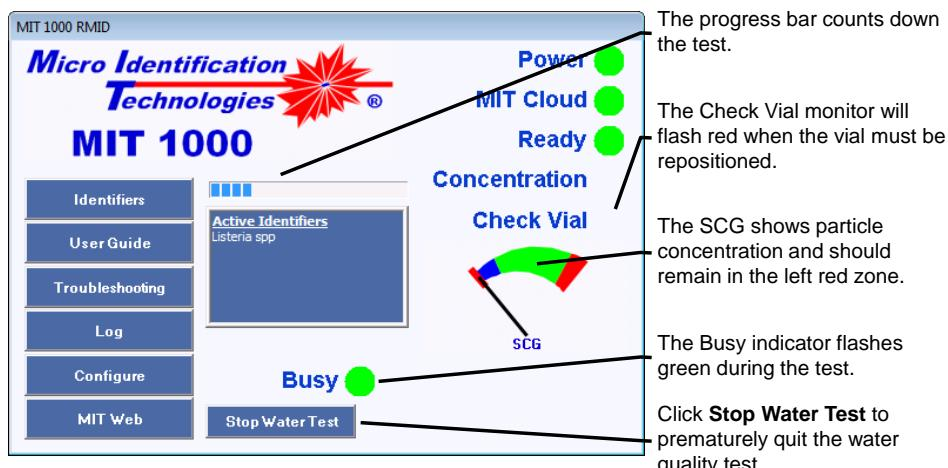

Figure 17 – Water Testing In Operation
- After a few seconds, the Sample Concentration Gauge (SCG) appears. The indicator in the Gauge should remain at the lowest condition (see Figure 17) during the test